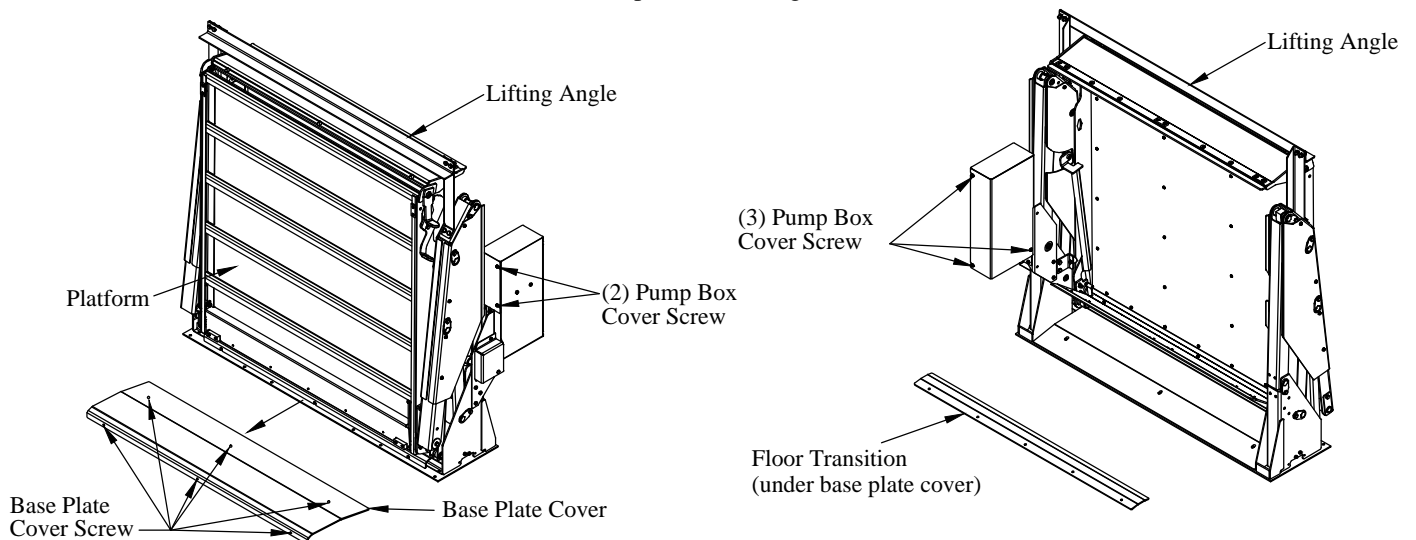

Figure 3: Base plate cover and pump box.
3. Remove the pump box cover by removing five (5) screws (Figure 3).
5. Replace the pump box cover and screws (Figure 3).
6. Remove and **Save** the six (6) screws fastening the base plate cover to the base plate (Figure 3).
7. Remove and **Save** base plate cover (Figure 3).
8. Remove and **Save** the floor transition that is under the base plate cover (Figure 3).
10. **Lift** the liftgate by the lifting angle with a fork truck or hoist (Figure 3).